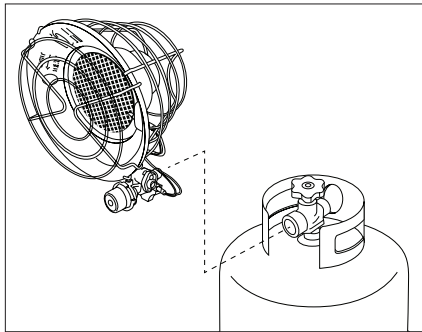

Figure 1
1. Be sure the heater is facing away from tank. Insert the regulator connector into the tank valve outlet fitting and turn left (counter clock-wise) until fully tightened. Do not overtighten. (See Figure 1)